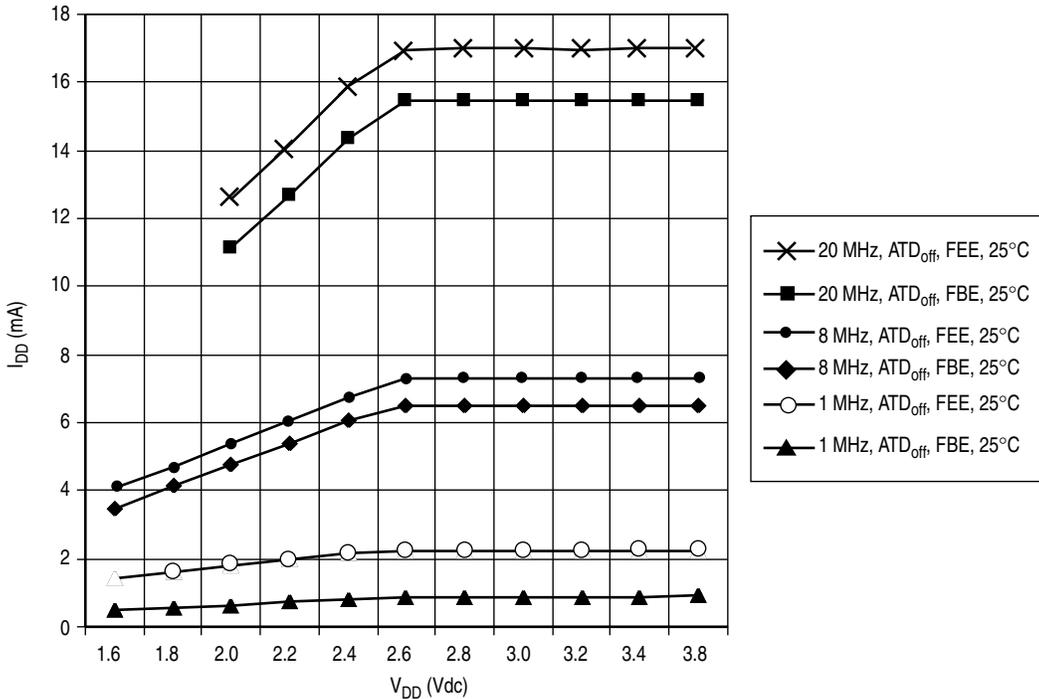

Figure A-6. Typical Run I_{DD} for FBE and FEE Modes, I_{DD} vs V_{DD}
- ¹ Typicals are measured at 25°C. See Figure A-6 through Figure A-9 for typical curves across voltage/temperature.